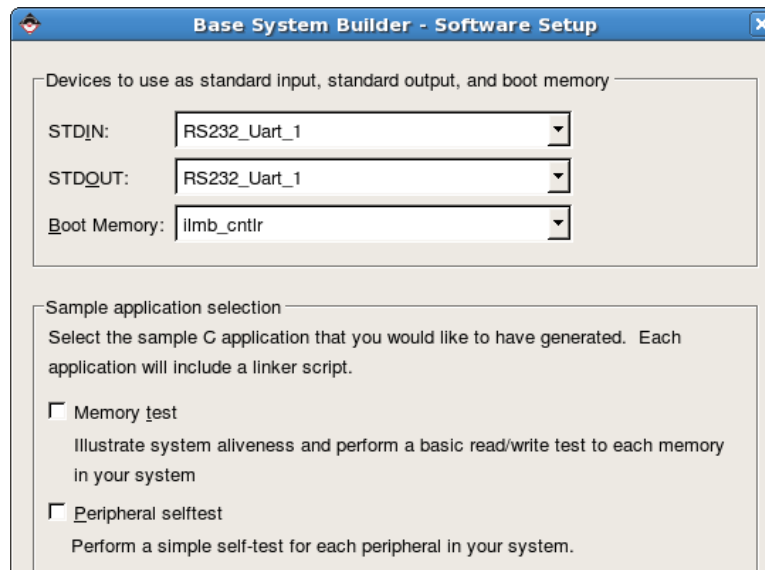

Figure 6: Software Setup
- (k) After specifying the peripherals connected to the PLB, the 'Software Setup' window (Figure 6) will come up. Uncheck 'Memory test' and 'Peripheral selftest'. These are test applications that XPS will autogenerate for us. We have no intentions of using them so we will not clutter up our project with them.
Note the first two fields in Figure 6. These point to the RS232 peripheral we specified previous for STDIN and STDOUT. Essentially, STDIN and STDOUT link printf and scanf to the serial port on the XUP board. The third field specifies where the boot code should be placed on the finished system. Upon reset, the microprocessor must know where to start executing code, and this is that area of memory. In our simple system, the BRAMs are the only memories we have (recall from the system diagram that the iLMB controller connects directly to the BRAM).